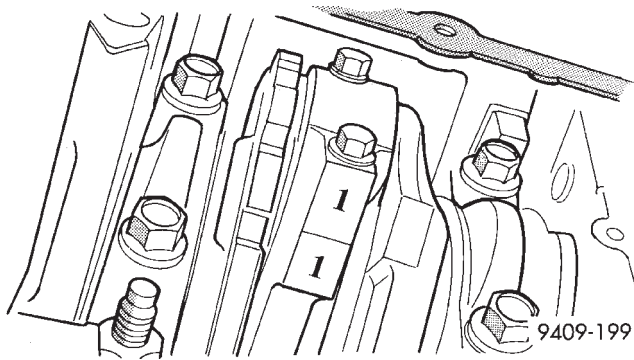

Fig. 109 Identify Connecting Rod to Cylinder
- (3) Using a permanent ink marker or scribe tool mark the cylinder number on the side of the rod and cap (Fig. 109) for identification.